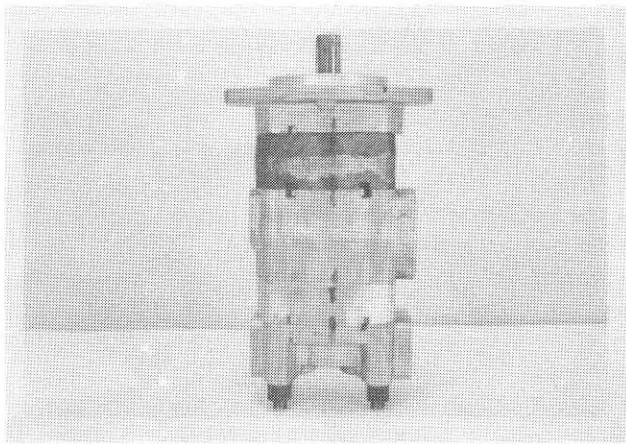

FIG. 1
2. Mark all pump plates on the side nearest the drive shaft extension. These marks will be used to correctly position the plates when you reassemble the pump. (Fig. 1)